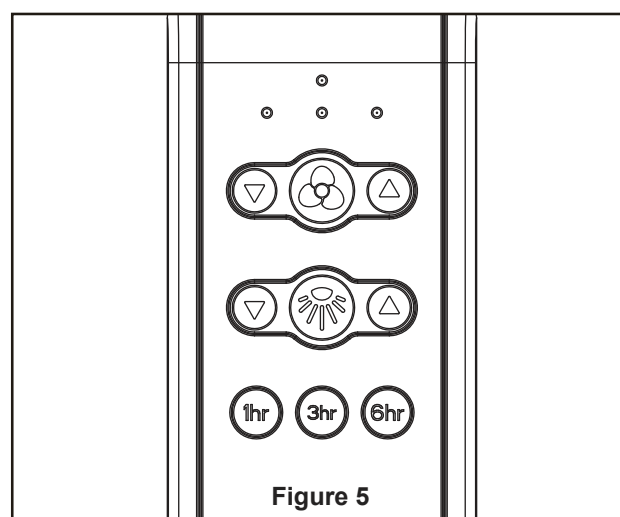

Figure 5
5. Route wires and safety cable through Motor Coupling Cover, Canopy Screw Cover and Ceiling Canopy. (Figure 5)
- 5.** Remote functions: (Figure 5)